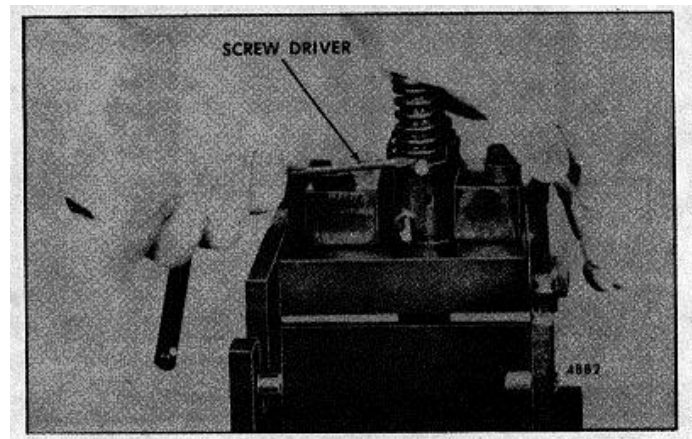

Fig. 11 Removing Injector Follower Stop Pin
2. Compress the follower spring. Then raise the spring above the stop pin with a screw driver and withdraw the pin (Fig. 11). Allow the spring to rise gradually.